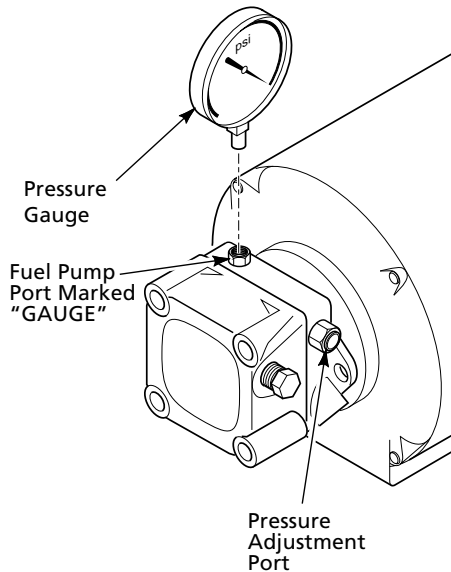

Figure 20 - Adjusting Pump Pressure
2. Install accessory pressure gauge (part number 110380-01) to fuel pump port marked "GAUGE" (See Figure 20). Do not use bleeder valve port to check pressure. Bleeder valve port contains pressure higher than operating pressure. Setting pump pressure with gauge in bleeder valve port will result in wrong operating pressure.